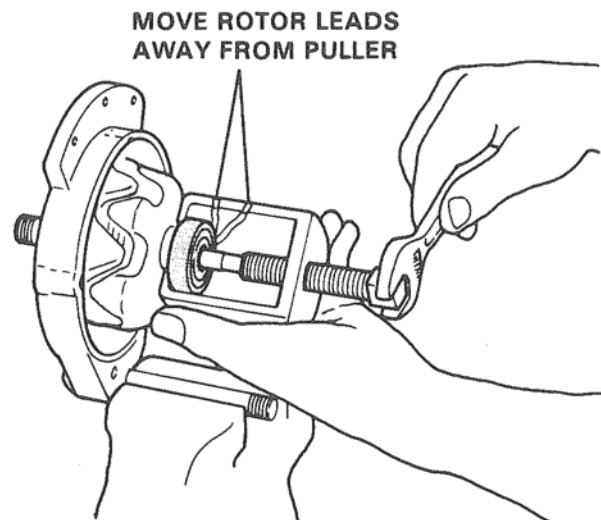

Figure 15. Removing Rear Bearing.
13. Install puller and remove rear bearing from rotor shaft. Figure 15.